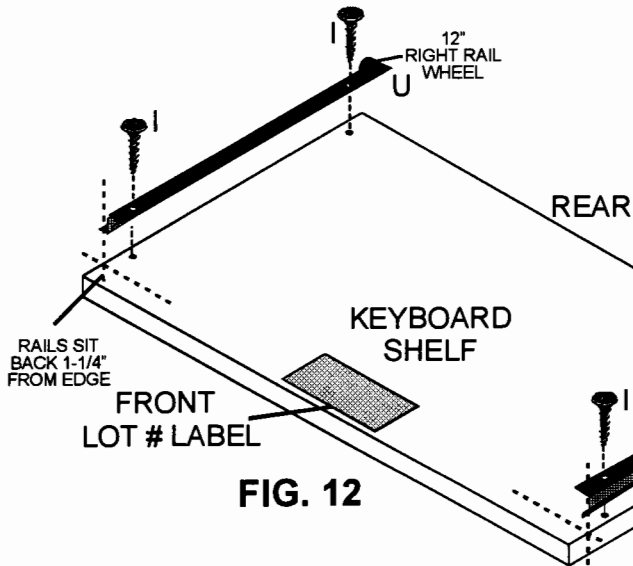

FIG. 12
Lay KEYBOARD SHELF, drilled side facing up, on a flat, non-scratch surface. NOTE: Lot label indicates FRONT of KEYBOARD SHELF. FIG. 12 Align and attach (1) 12" RIGHT DRAWER RAIL (U) to left side of panel, wheel on rail to the REAR, using (2) #6 X 5/8" FLAT HEAD SCREWS (I) as shown.